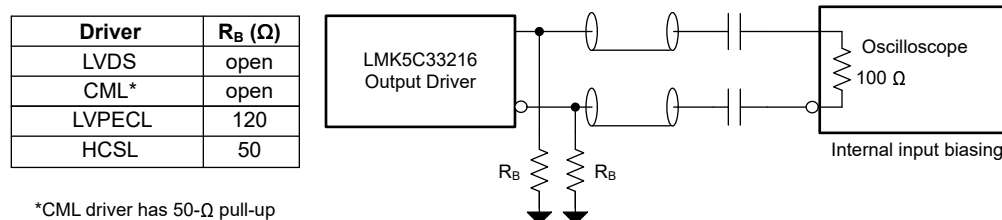

Figure 3-11. Output Termination Recommendations
1. Ensure all required outputs have proper termination components installed to match the desired output types. Recommended output terminations for each output type are shown in Figure 3-11.